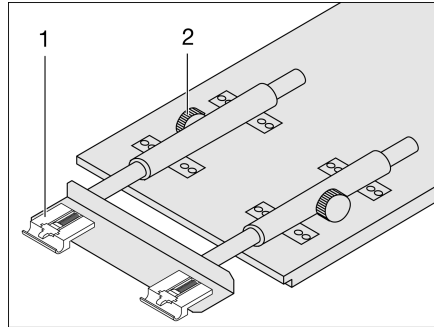

Fig. 92 Extend suspension table
- Undo the knurled screws (Fig. 92,2).
- Lift the table-top slightly and pull it out as far as possible. The table extension (Fig. 92,1) is fully extended.
- Lift the table-top slightly and push it back as far as possible. The table extension (Fig. 92,1) is fully retracted.